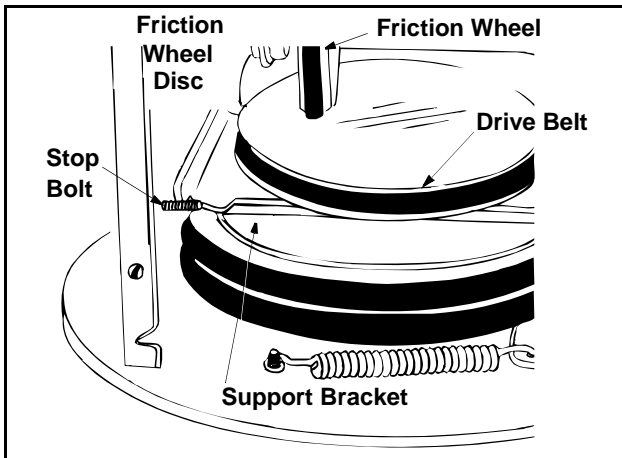

Figure 23
7. Back out the stop bolt to allow the belts to slip between the bolt and auger pulley. See Figure 23.
3. Back out the stop bolt until the support bracket rests on the auger pulley. See Figure 23.
4. Slip belt between friction wheel and friction wheel disc. See Figure 23. Remove and replace belt. Reassemble following the instructions in reverse order.
NOTE: The support bracket must rest on the stop bolt after the new belt has been assembled. See Figure 23.